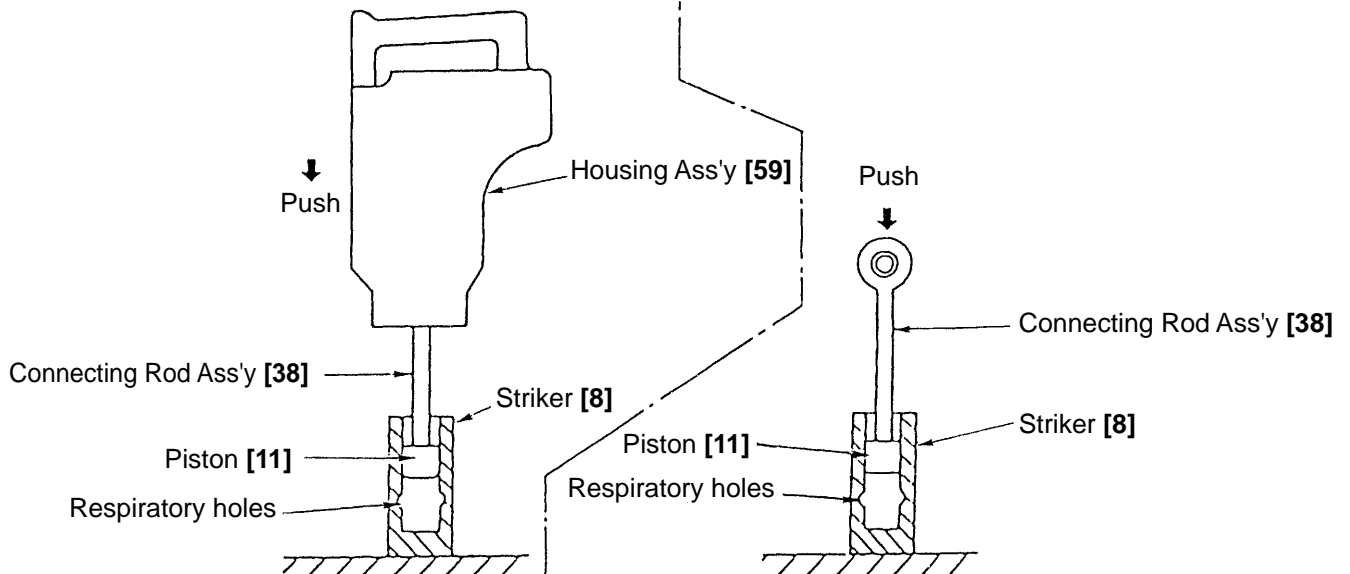

Fig. 11
### (3) Reassembly of the Striker [8]: (Two possible methods) (Fig. 11)